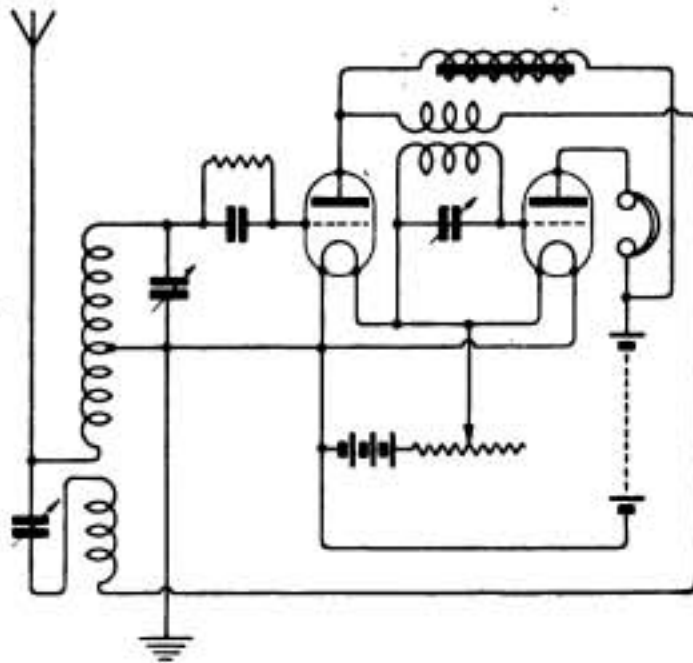

Fig. 2.
(1) We cannot give exact values without experimental work which you can equally carry out yourself, but we think your suggestion of a former  $3\frac{1}{2}$ ' diameter with 25 turns for the aerial, and 50 for the grid circuit, should be satisfactory (2) Try tapping the grid coil at 20, 30, 40 and 50. Tap the aerial coil at every two turns. (3) Reaction coil might have 35 turns, tapped at 10 and 20. (4) See diagram, Fig. 2.